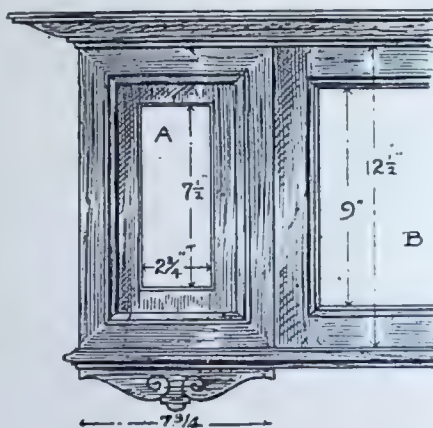

FIG. 2.—PICTURE FRAME WITH INLAID END PANELS.
The second suggestion (Fig. 2) is on the lines of the carved picture frame illustrated on page 97. The design as shown on that page could be followed almost exactly as described, as the inlays are practically the same size as the carved panel given for the end pilasters. It will be much better, however, to adopt the plan just suggested for the cabinet doors, and increase the daylight size of panel to $9\frac{1}{2}$ ins. by $4\frac{1}{2}$ ins., with a box line or chequered band separating the inlay (A) from the plain margin. If $1\frac{1}{2}$ ins. wide framing is used, the end panels will come out at $12\frac{1}{2}$ ins. high by $7\frac{3}{4}$ ins. wide. The shaped piece below will be about $1\frac{3}{4}$ ins. deep and $7\frac{3}{4}$ ins. wide.